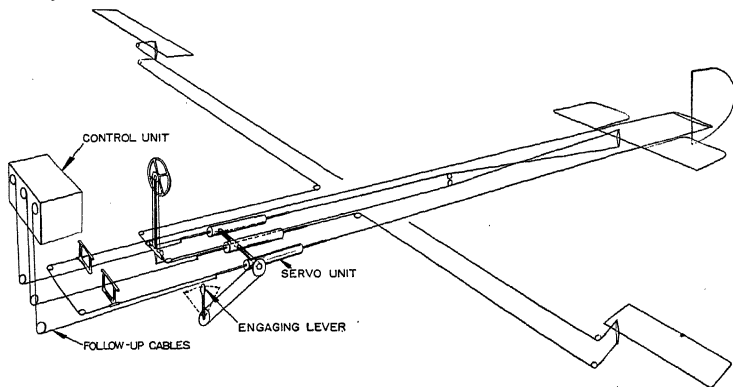
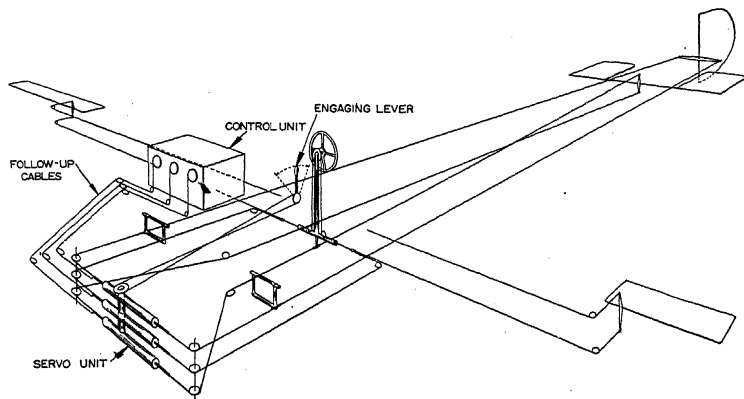

FIG. 79.—Cable connections with servo in series with main control system.
Fig. 80.—With servo cable connections paralleled into main control system.
The servo unit should be installed in the main control cables in series (Fig. 79) when possible. Where this is not feasible, a parallel type of installation should be used, as shown in Fig. 80. Servo rods can be used only in tension with cables. The equipment is not designed for use in compression. For either installation, brackets and structure to which the servo unit is attached must be sufficiently strong to withstand the design load of any two cables applied simultaneously (C.A.A. regulations). It is recommended that the servo unit be mounted in a horizontal position in order to preclude the possibility of trapping air in the cylinders.
**Hookup of Units.**—The *main cables*, attached to the ends of the servo unit piston rods, should have their pulleys and guides located so that no side loads will be exerted on the servo rods. Any cylinder can be used for any given control in either direction, the follow-up cables and tubing being connected to the proper places on the mounting unit. The  $\frac{3}{8}$ -24 threads on the ends of the piston rods take a standard A.N. clevis. Stops should be provided in the airplane's control system set so that the servo unit is not employed as a stop at the end of its stroke. It is best to lay out the control system using the servo unit *in series* as shown in Fig. 79, as it generally reduces the amount of cable and pulley installation required. When necessary a parallel installation can be used as shown in Fig. 80, or a combination of series installation